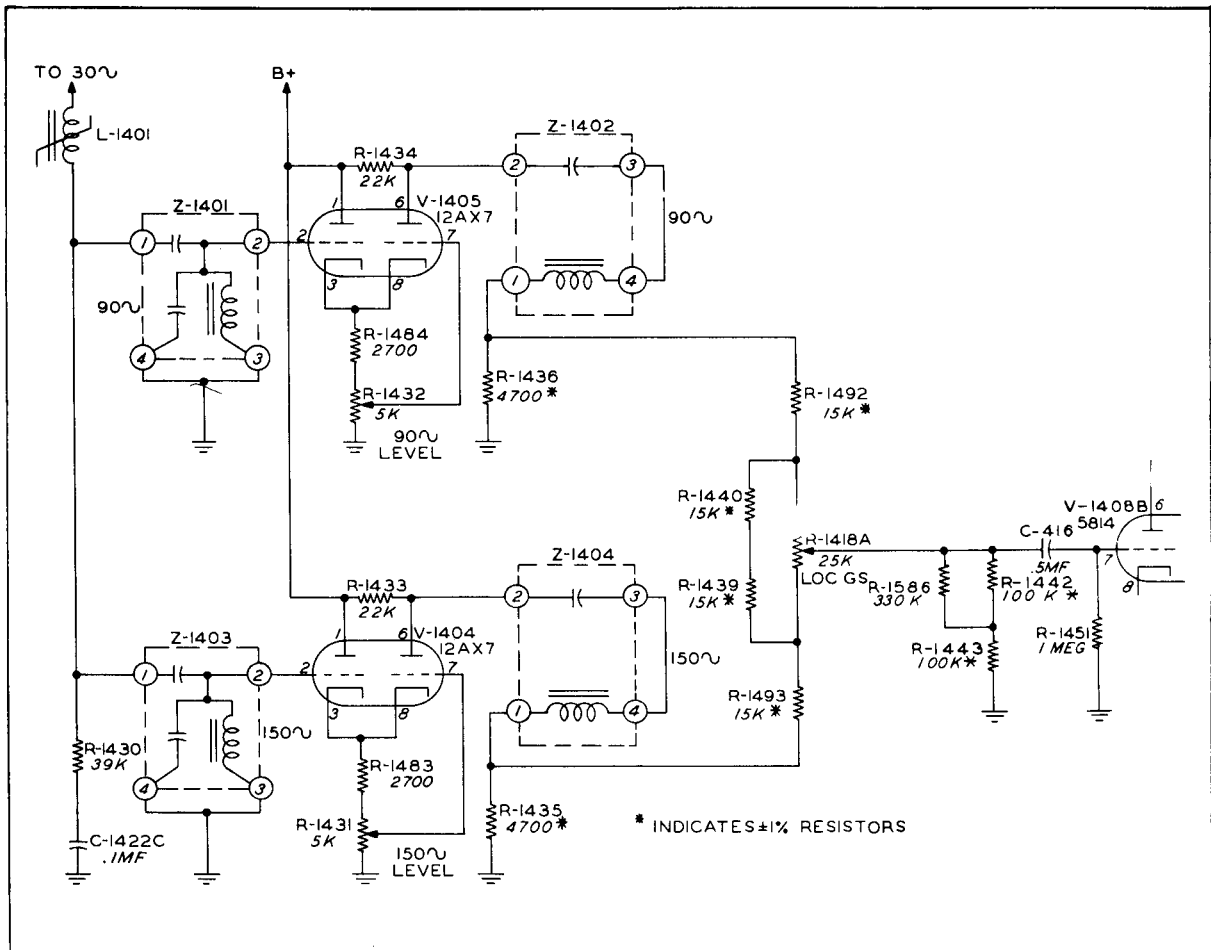
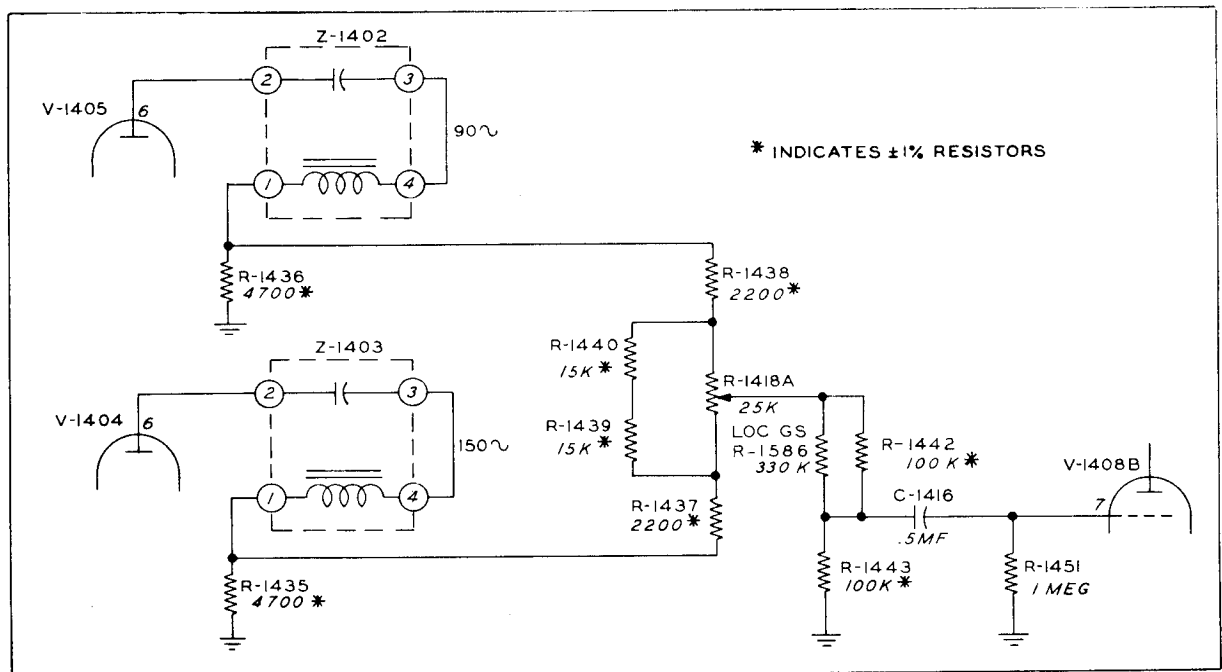
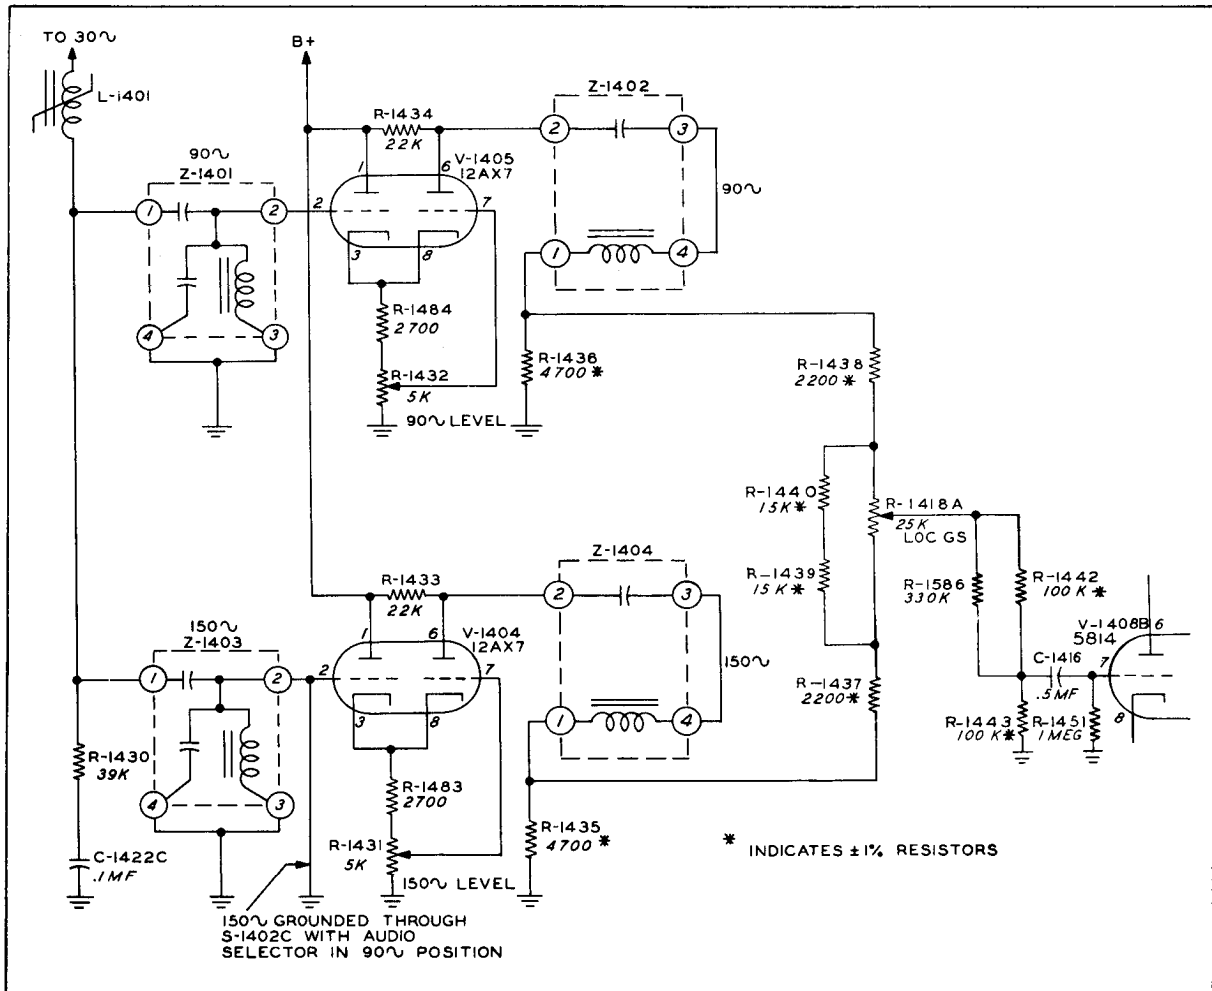
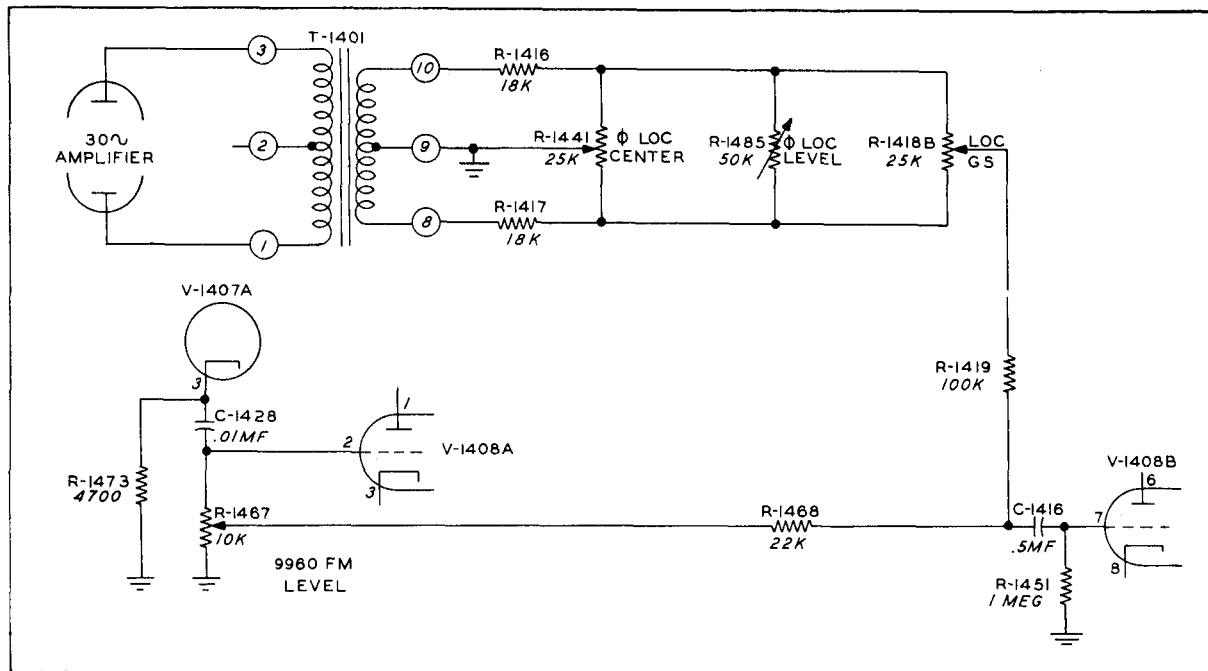

Figure 3-3. Signal Generator SG-13/ARN, Simplified 90-150 CPS Circuit, Audio Selector on GLIDE SLOPE
Figure 3-4. Signal Generator SG-13/ARN, Simplified 90-150 cps Circuit, Audio Selector on TONE LOC
Figure 3-5. Signal Generator SG-13/ARN, Simplified 90-150 cps Circuit, AUDIO SELECTOR on 90 \sim
Figure 3-8. Simplified Signal Generator SG-13/ARN, Phase Localizer Circuit
3-8. GLIDE SLOPE CIRCUIT. See figure 3-3. The 90 and 150 cps signals for glide slope and localizer operation are generated by distorting the 30 cps signal and selecting the third and fifth harmonics by means of filters. Considerable 30 cps voltage is applied across L-1401, a small audio reactor whose core is insufficiently large for the level involved and consequently saturates. This saturation causes the voltage drop across R-1430 and C-1422C to be distorted and very rich in harmonics. The 3rd and 5th harmonics are separated with filters Z-1401 and Z-1403 and
3-9. TONE LOCALIZER. The 90 - 150 cps circuit is practically the same on TONE LOC as it is on GLIDE SLOPE. Some resistor values in the LOC-GS attenuator are changed by switching. See figure 3-4. The 15,000 ohm resistors on each side of R-1418A in the glide slope circuit are replaced with 2200 ohm resistors in the tone localizer circuit. The 90 and 150 cps levels at the center position of the LOC-GS control are still equal, but when the control is set to the top line of the right or left segment the difference in level between the 90 and 150 cps signals is now 6.0 db. At the bottom line of either segment the level difference is now 7.5 db. Since only 20% modulation is required for each tone for an on-course signal in the TONE LOC position, the level applied to the grid of V-1408B is reduced with the voltage divider consisting of R-1586, R-1442 and R-1443.
3-10. 90 CPS AND 150 CPS. See figure 3-5. The schematic shows the connections in the 90 cps circuit when the AUDIO SELECTOR is set to 90 \sim . Note that the circuit is identical to the Tone Localizer circuit of figure 3-4 with one exception (1) the input grid of V-1404 has been shorted to ground to kill the 150 cps signal. With this connection 20% modulation at 90 CPS is obtained when the LOC-GS control is set in the middle of the white center sector on the panel. In the 150 \sim position the 90 cps signal is disabled and 20% modulation at 150 cps is obtained when the LOC - GS control is set in the middle of the white center sector on the panel.
paragraph 3-5, and the 30 cps reversible phase signal is derived from a bridge circuit connected to one of the secondaries of T-1401. See figure 3-8. The two signals are fed through isolation resistors R-1419 and R-1468 and applied simultaneously to the grid of amplifier V-408B. The bridge circuit is adjusted with the \emptyset LOC CENTER control so that no 30 cps voltage will be applied to the grid of V-1408B when the LOC-GS control is set in the middle of the white center sector on the panel. This simulates an on-course signal. As the LOC-GS potentiometer is turned off center, a 30 cps signal in-phase with the 30 cps reference phase signal or 180 degrees out-of-phase with it will appear on the grid of V-1408B, depending upon the direction of rotation. The amplitude of this 30 cps signal depends on how far off center the LOC-GS potentiometer is set. With the potentiometer set on the top line of either the right or left segment this 30 cps signal should modulate the r-f carrier 11.5%; on the
3-14. OUTPUT MIXING AND SWITCHING. In order to combine the various signals generated in the proper proportions to provide the functions desired, it is necessary to mix these signals and switch them to a common output. For the VOR position, 30 cps variable phase and 9960 FM are required. The output level of the 30 cps variable phase signal is adjusted by R-1446 while the 9960 FM output is adjusted with R-1467. Resistors are connected in series with the arms of both potentiometers for isolation. For the ϕ LOC position, 9960 FM and 30 cps reversible phase are combined. See figure 3-8. The 30 cps variable phase signal is disabled by shorting the junction of R-1444 and R-1445 to ground through S-1402C. In the TONE LOC position the circuit shown in figure 3-4 exists. Connections for the GLIDE SLOPE position are shown in figure 3-3. It is necessary to set the NAV-GS switch to GS to set up the proper glide slope carrier frequency. In the 1000 \sim position, the 9960 cycle oscillator has a 1000 cycle phase shift network switched in by S-1402D. The 1000 cycle level is controlled by R-1464. The 30 \sim VAR ϕ position provides a signal useful for calibration since it is the 30 cps variable phase component of the VOR signal. It is obtained by simply omitting the 9960 FM. The 9960 FM position is the other half of the VOR signal and is obtained in a similar manner. In the 90 \sim position the 150 \sim is disabled by shorting the grid of the 150 cps limiter to
ground through S-1402C. See figure 3-5. In the 150 \sim position the reverse situation takes place. Mixed signals from the switching network are fed to the grid of V-1408B, an amplifier common to all signals.